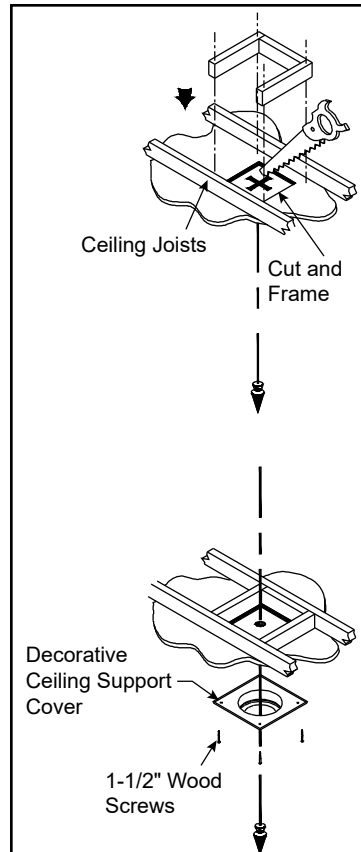

**Figure 3.32**
**Step 2** - Set the gas appliance in the desired location. Drop a plumb bob down from the ceiling to the position of the appliance flue exit, and mark the location where the vent will penetrate the ceiling. Drill a small hole at this point. Next, drop a plumb bob from the roof to the hole previously drilled in the ceiling, and mark the spot where the vent will penetrate the roof, Figure 3.32. Determine if ceiling joists, roof rafters, framing or other materials will obstruct the venting system. You may wish to relocate the appliance or to offset, to avoid cutting load-bearing members.